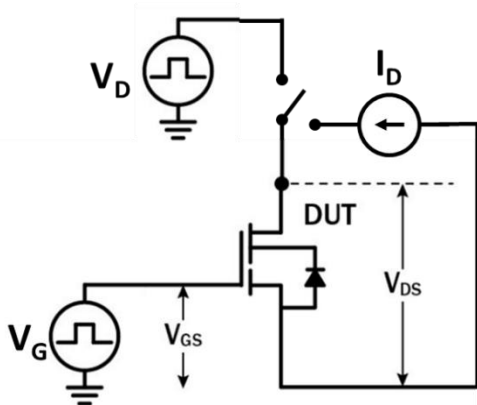

Figure 19. Dynamic  $R_{DS(on)eff}$  Test Circuit
f. Dynamic on-resistance; see Figures 19 and 20 for test circuit and conditions